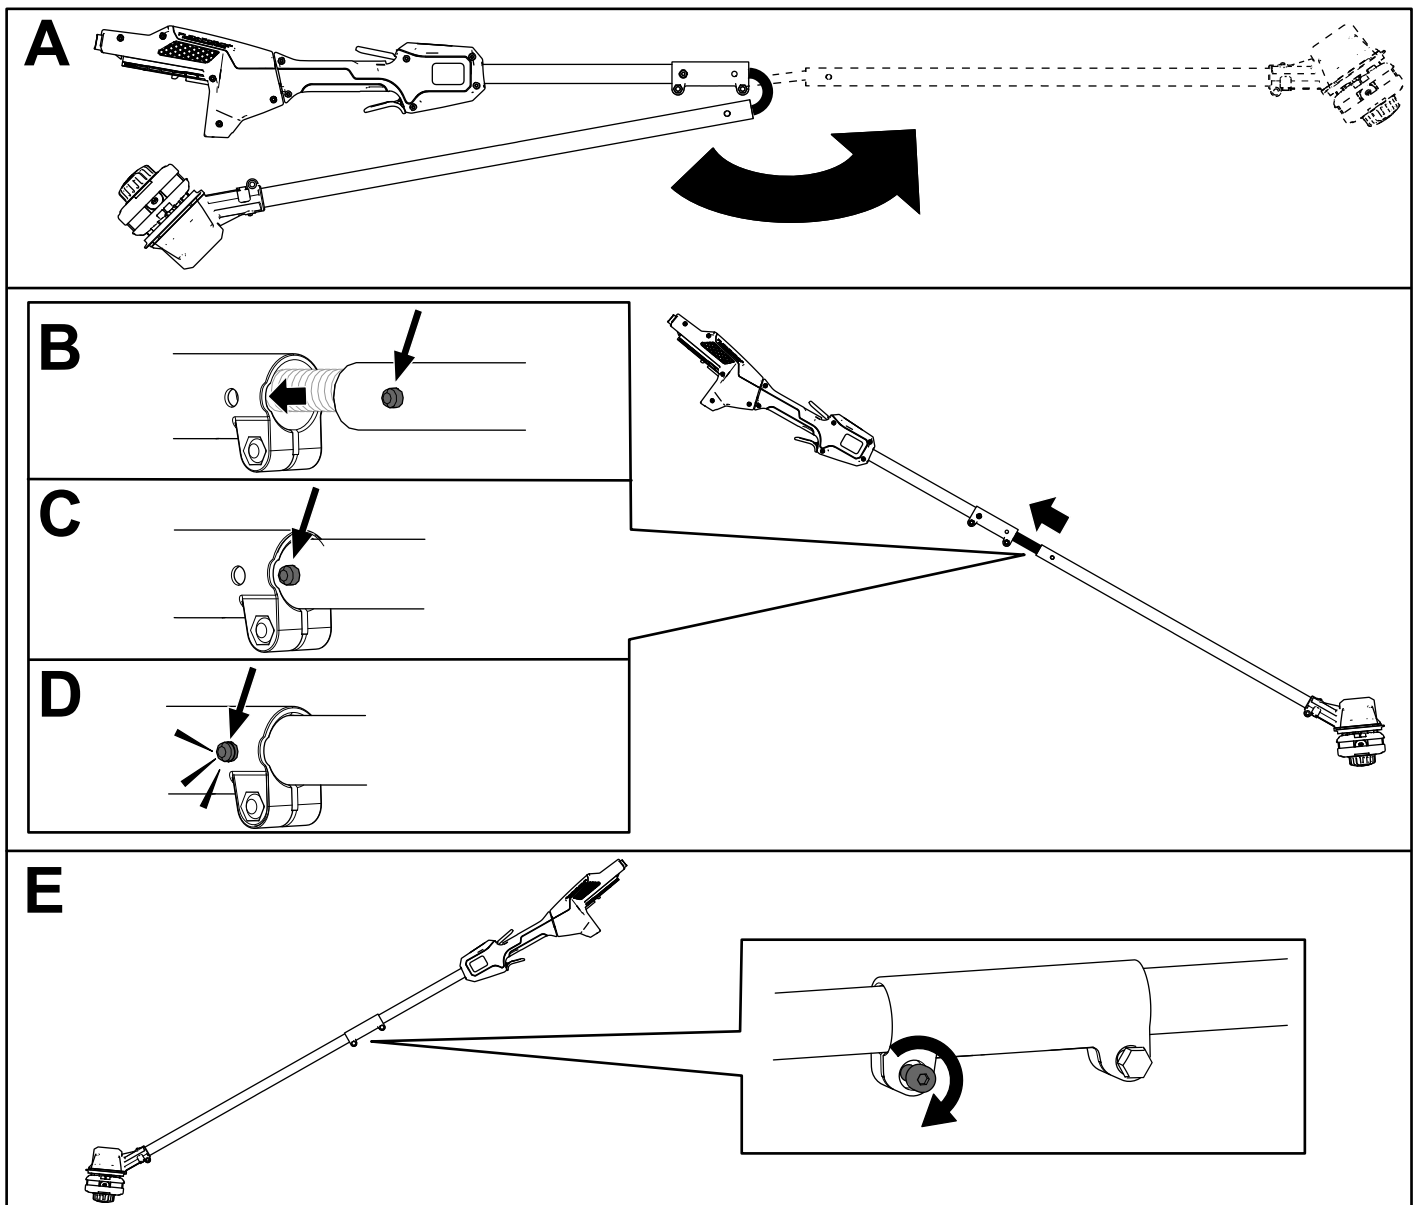

Figure 4
1. Unfold the handle (A of Figure 4).
2. Align the locking button on the lower shaft with the slotted hole on the upper shaft and slide the 2 shafts together (B and C of Figure 4).
**Note:** The locking button clicks into the slotted hole when the shafts are secured (D of Figure 4).
3. Using the provided Allen wrench, tighten the screw on the shaft connector until it is secure (E of Figure 4).